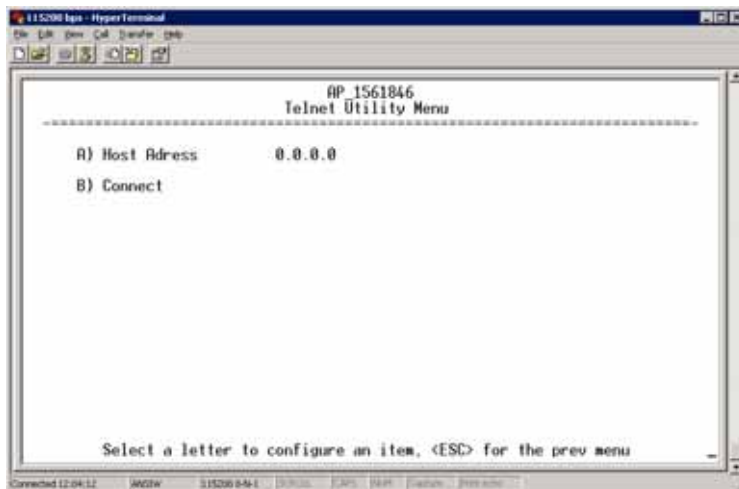

Figure 3-102. Telnet Utility Menu
- **Telnet Utility**—A submenu for opening Telnet connections to network devices (Figure 3-102 on Page 124).